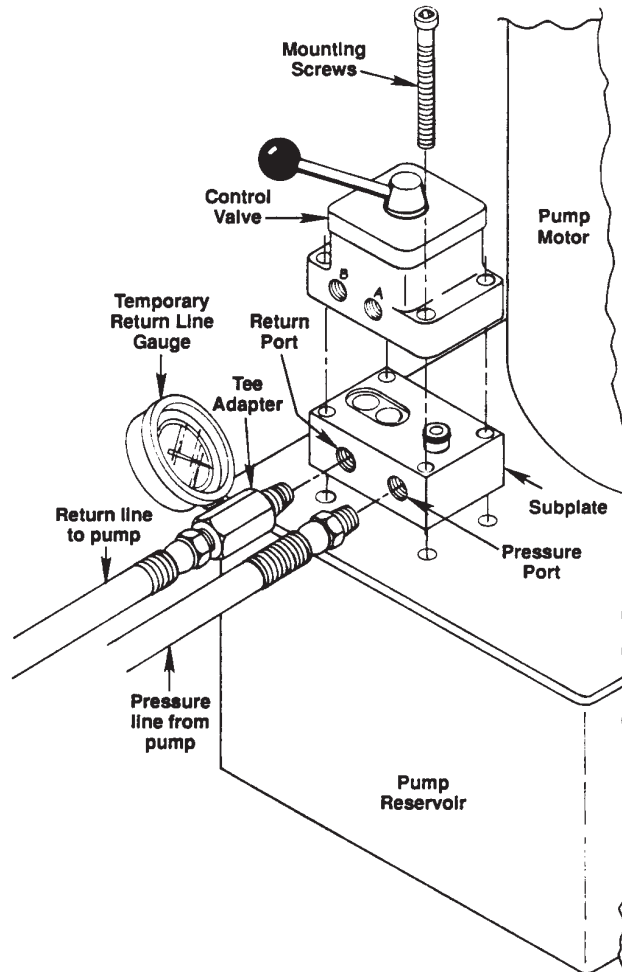

FIGURE 1
1. Using the cap screws provided mount the valve and subplate to the pump as shown in Figure 1.
3. Install a *temporary set-up* of a hydraulic gauge mounted to a tee adapter, directly into the oil return port of the subplate. See Figure 1.